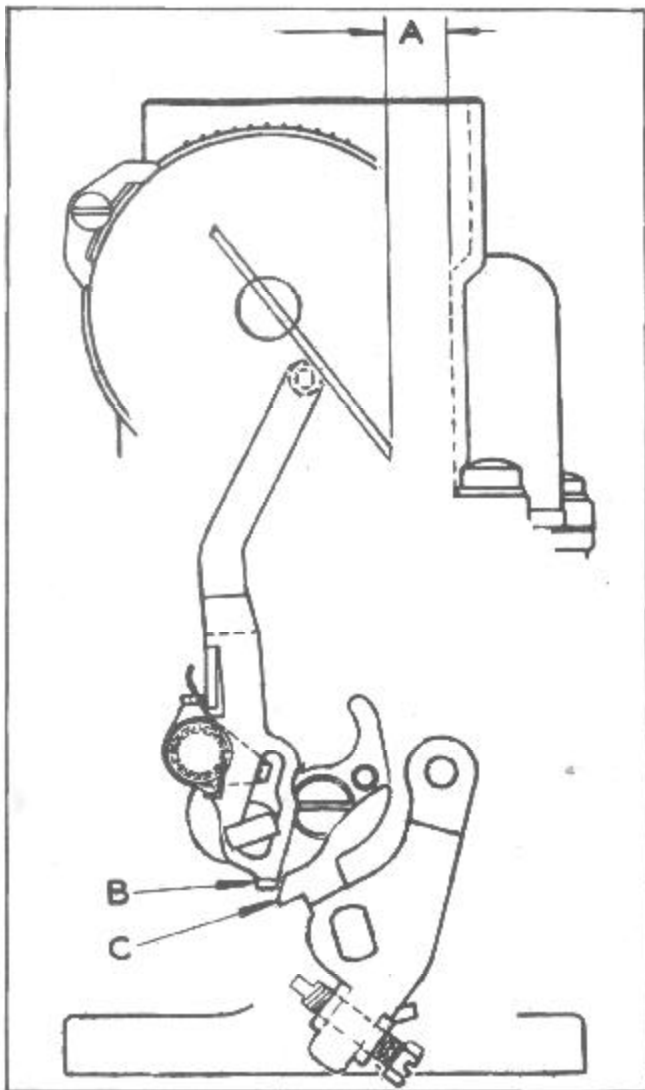

Figure 26--Unloader Setting
There should be 7/16" clearance at (A) Figure 26, between the lower edge of the choke valve and the inner wall of the air horn with the throttle valve wide open.
Adjustment can be made by bending the lip at the lower end of the fast idle link to give 1/32" clearance between the lip (B) Figure 26, and the throttle lever